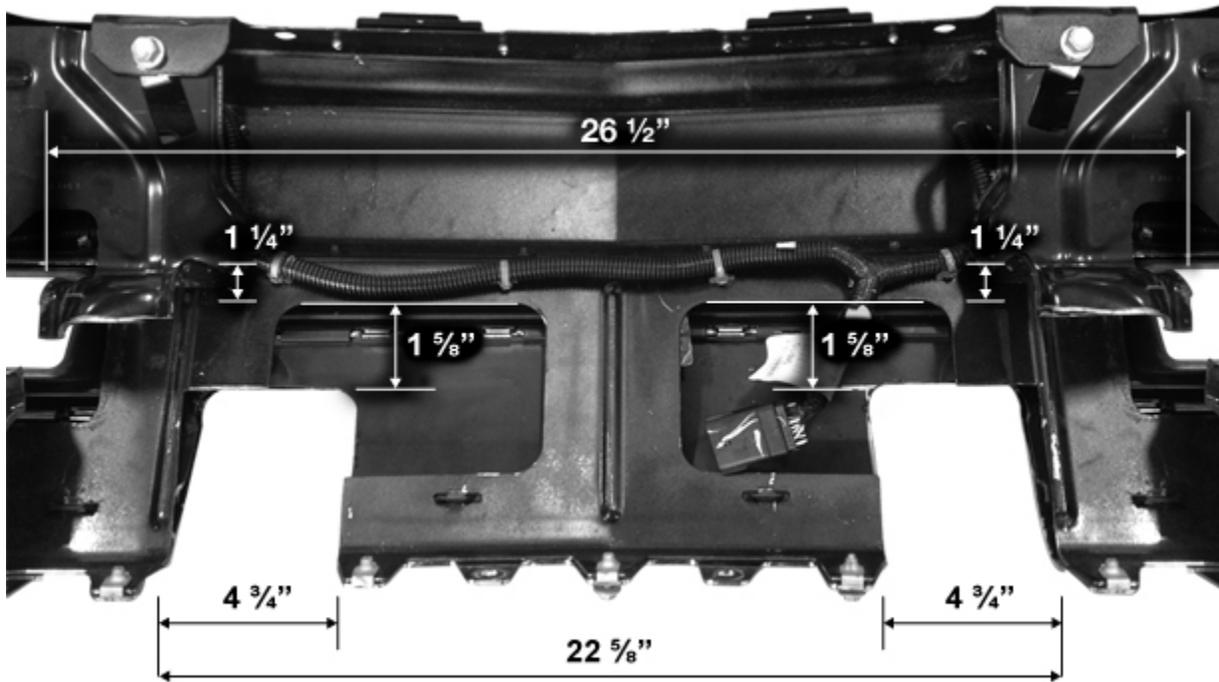

Figure 2 – Rear View of Bumper (2014+)
6. Notch bumper on SUV's or trucks with a molded bumper using template in Figure 1 for 2007-2014. Notching of bumper rear support may be necessary for some newer models refer to Figure 2. NOTE: THIS IS ONLY A GUIDE. SOME VEHICLES MAY NOT REQUIRE NOTCHING.